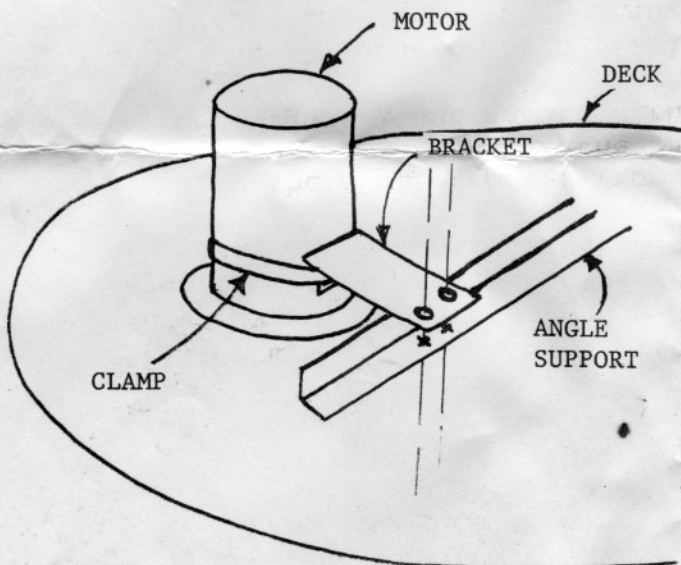

FIGURE 1
1. With the mower removed from the tractor, assemble one clamp around the motor near the base. Place a bracket as shown in the Figure 1 and secure with the clamp.